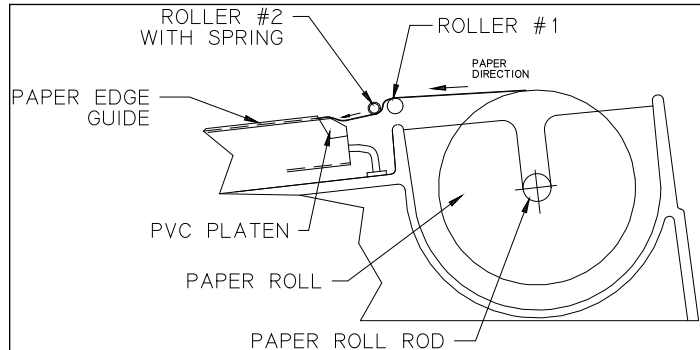

Figure 3 Abrasive Paper Installation Diagram
4. Thread the end of the paper roll over ROLLER #1 and under ROLLER #2 WITH SPRING (see Figure 3).